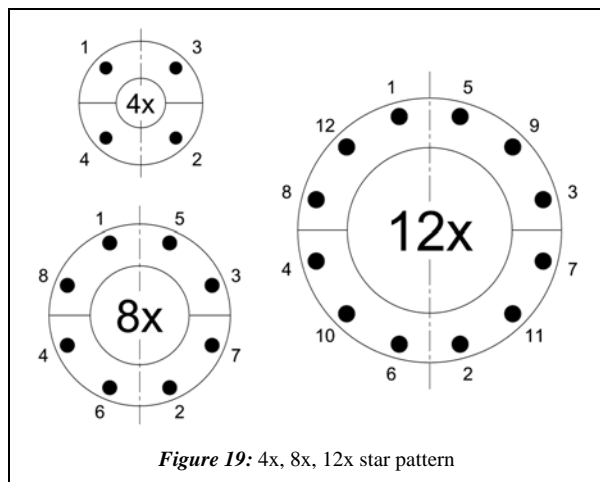

Figure 19: 4x, 8x, 12x star pattern
STEP 2: Start with 50% of the required torque and tighten the bolts in a star pattern (Fig. 19).
STEP 3: Now use 100% of required torque and tighten the flange bolts in a star pattern (Fig. 19).